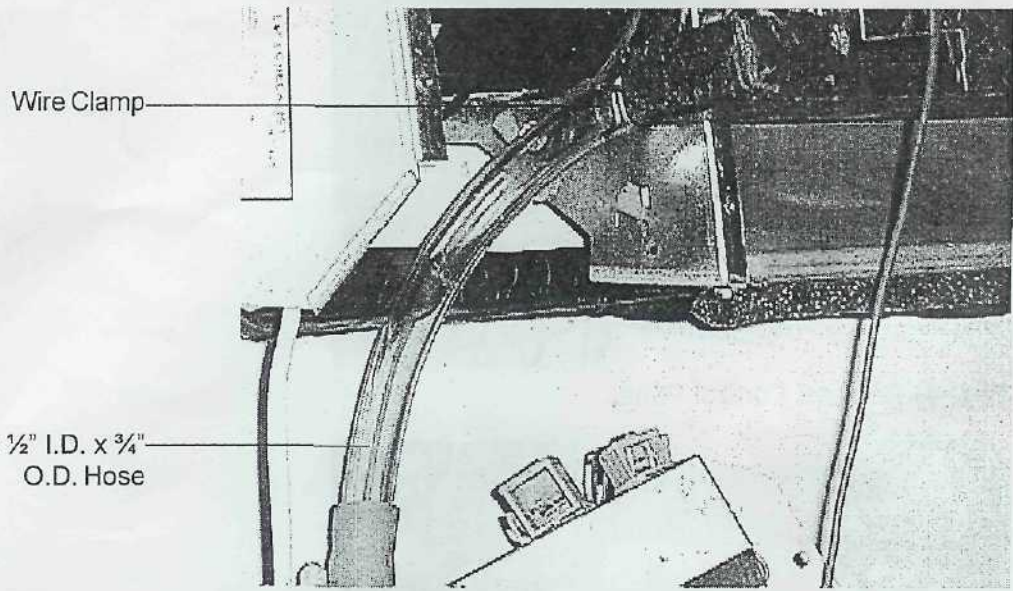

Fig. 7- 8" x 1/2" I.D. x 3/4" O.D. Drain Hose Mounted To Drain Pan And Sump/Detection Unit With Single Wire Clamp.
8. Using the Single Wire Clamp, mount one end of the 8" x 1/2" I.D. x 3/4" O.D. Drain Hose to the Drain Pan and the other end to the Sump/Detection Unit. [FIG. 7]